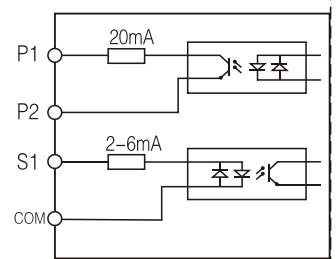

figure4
Step 4.:Connect the CN1 connector to power cable while CN2 connector to signal cable (see figure 4)Caution: The maximum current for each tensioner is 2A For multiple control of tensioners, the rating power or current is decided by the number of tensioners (or axis of winders) with below reference: